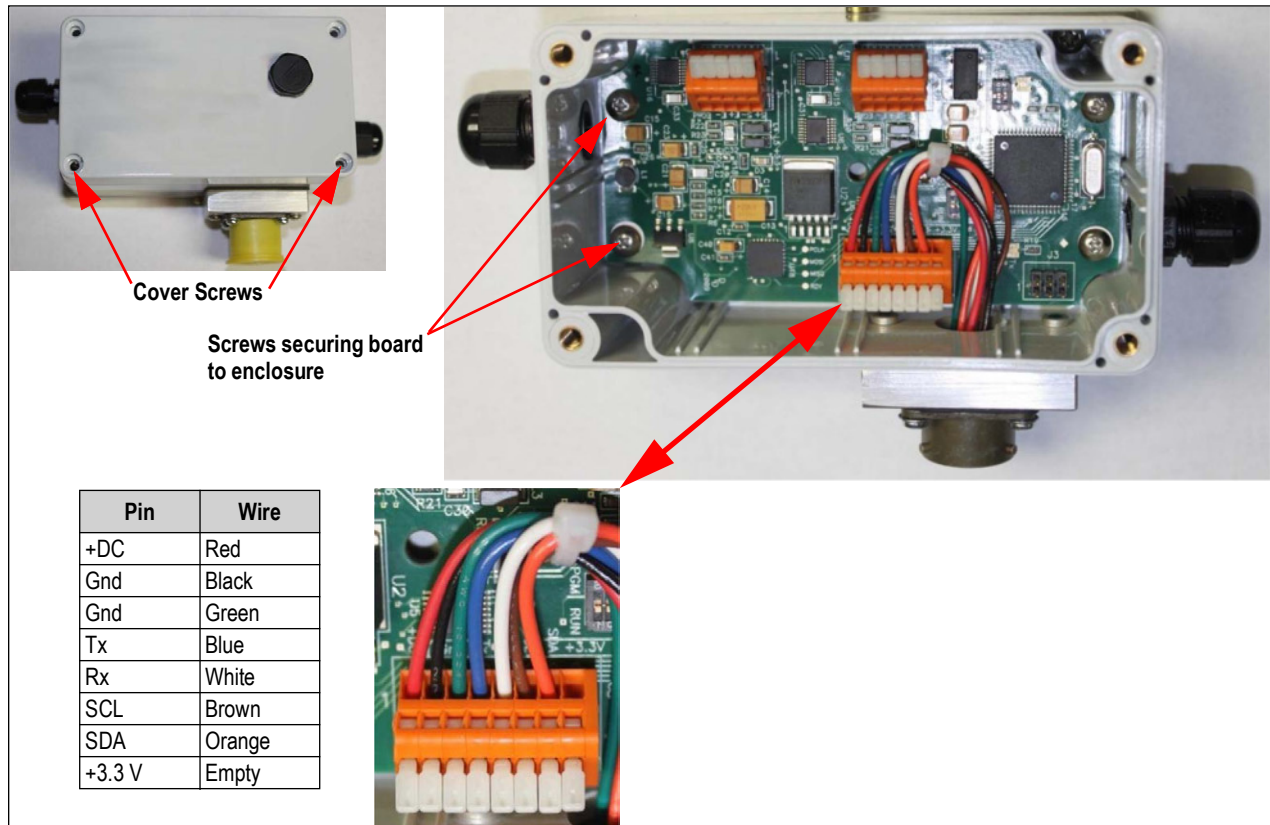

Figure 4-18. Board Removal and Wiring – One Board Style
5. Reconnect the wires to the board. See Figure 4-18.
7. Reconnect the wires to the board. See Figure 4-18 and Table 4-12.